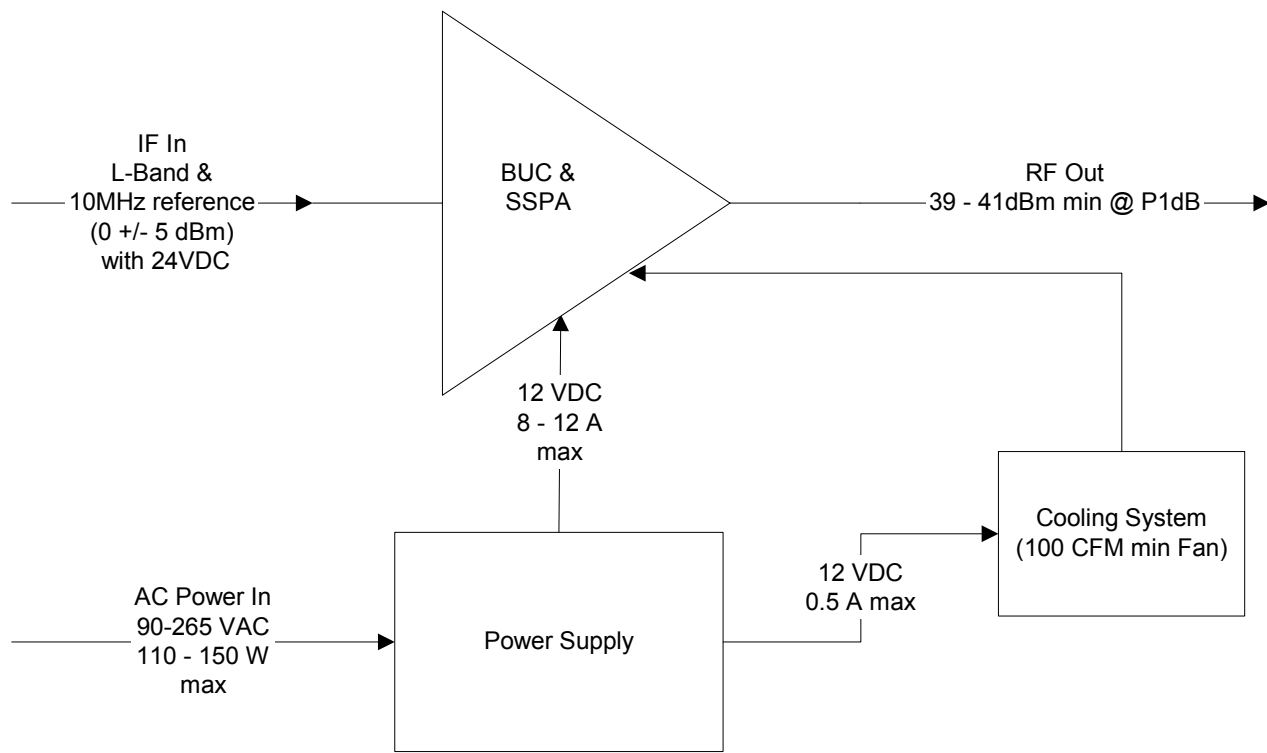

Figure 2 - System Block Diagram
Figure 2 block diagram illustrates the transmitter module.
- 12 VDC, 0.5A maximum to the cooling system fan. Refer to Figure 2